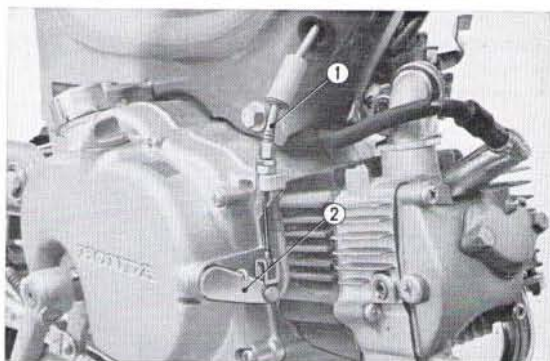

Fig. 2.3 (PS 50)
6. Disconnect the clutch cable from the clutch lever. (Fig. 2.3)